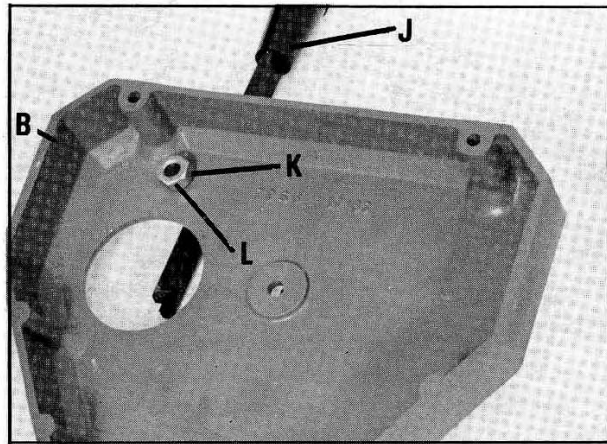

Fig. 24
8. Assemble lever (J) Fig. 24, to gear box cover (B) as shown, using the 10mm lockwasher (K) and M10 hex nut (L) supplied.